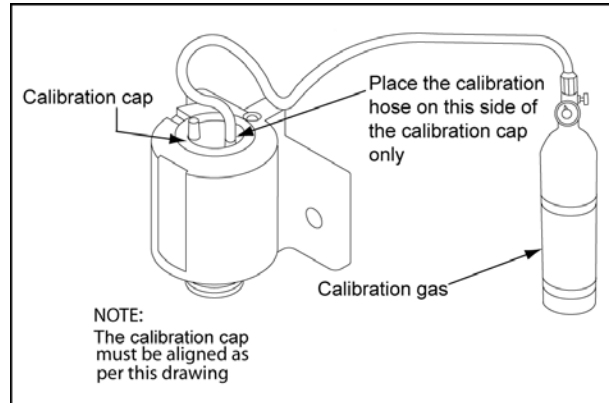

Figure 20. Calibration Connections
12. Connect the tubing to the cylinder and to the calibration cap as shown in Figure 20.